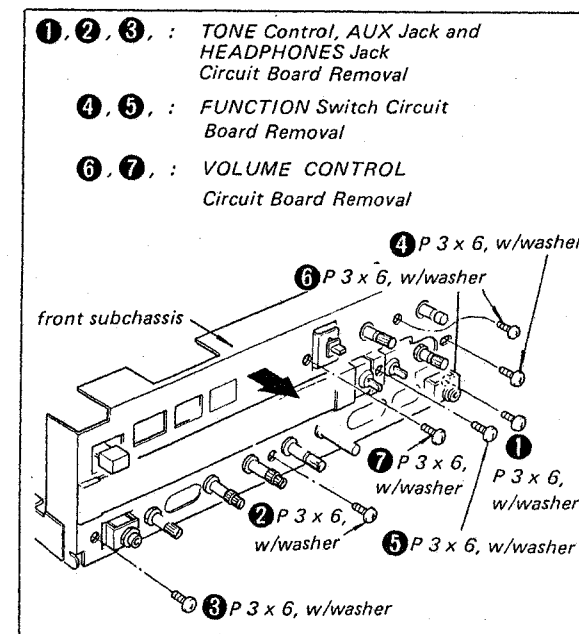

Fig. 2-5.
2. Remove three screws (1 - 3) as shown in Fig. 2-5.
2. Remove two screws (4, 5) as shown in Fig. 2-5. After removing the circuit board from the front subchassis, replace the defective switch.
2. Remove two screws (6, 7) as shown in Fig. 2-5. After removing the circuit board from the front subchassis, replace the defective control.